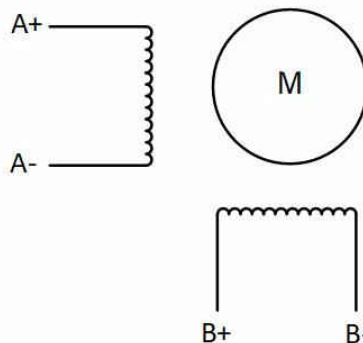
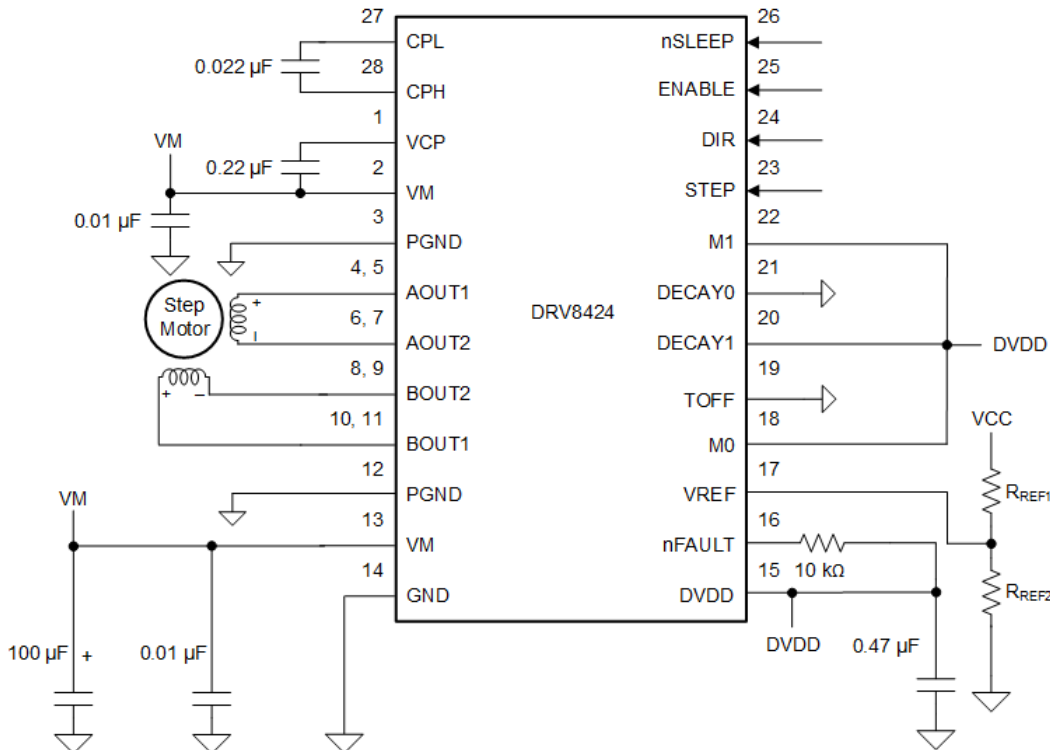

Figure 2-2. Bipolar Stepper Motor
Figure 3-3. Unipolar Stepper Schematic with DRV8424
- **Ignore the center tap on each winding** – The motor effectively looks as shown in Figure 2-2. This configuration energizes the full winding, thus achieving higher torque at lower speeds compared to the corresponding unipolar stepper motor. However the resulting higher inductance causes the torque to drop at a faster rate than that of a unipolar stepper motor - thereby limiting the maximum speed of operation. A typical application schematic with the DRV8424 is shown in Figure 3-3.